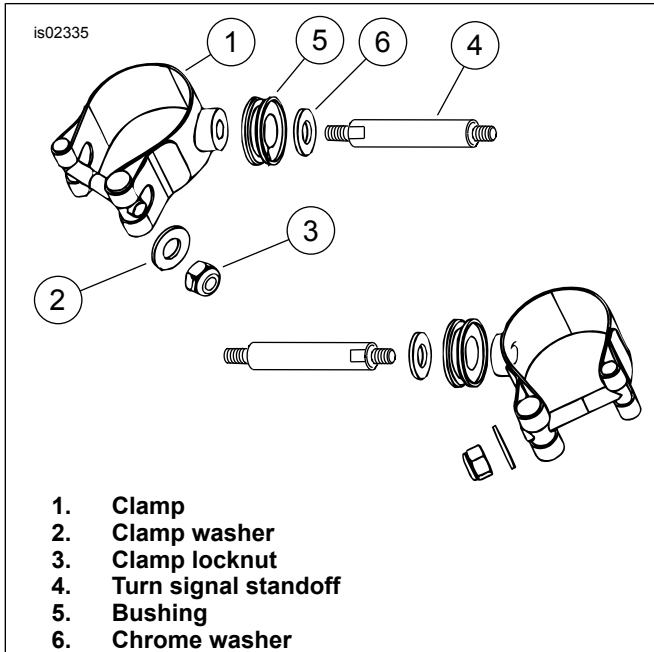

Figure 2. Assemble Lower Docking Hardware
- b. See Figure 2. Install a Rubber Bushing (5), a Chrome Washer (6) and a Chrome Turns Signal Standoff (4) (with flats toward clamp) into boss on each of the two clamps (1). Tighten the Turn Signal Standoffs finger tight. These will be the lower clamps. Temporarily remove the washers and locknuts from the clamps and save for Step 5.